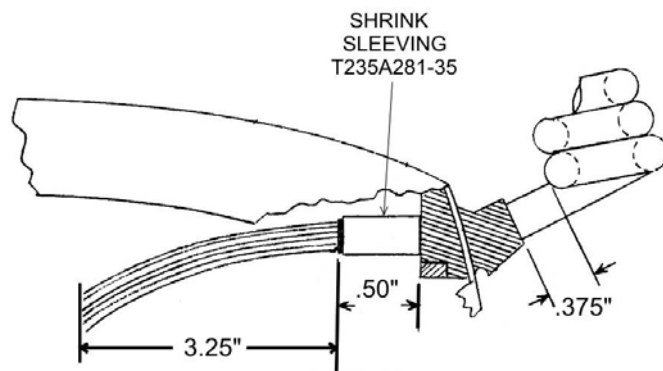

Fig. 4
- h) Install coil cord thru opening in backshell, slide strain relief egress over cord to a position approximately 0.375" from first coil. Cut a piece of shrink sleeving T235A281-35 to 0.5" length, position as shown in Fig. 4 and heat shrink in place.
- b) Install coil cord thru opening in backshell, slide strain relief egress over cord to a position approximately 0.375" from first coil. Cut a piece of shrink sleeving T235A281-35 to 0.5" length, position as shown in Fig. 4 and heat shrink in place.